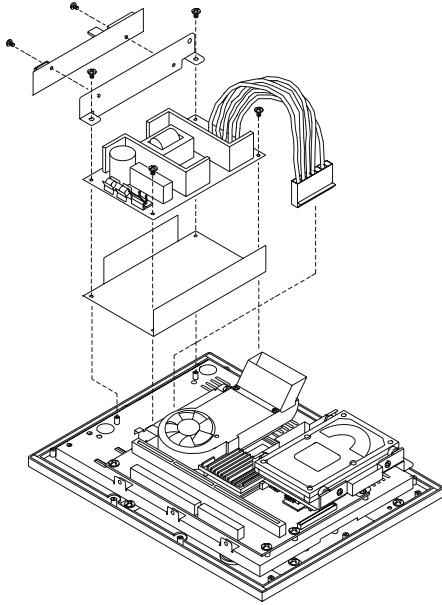

Figure 2.14: Replacing the power supply
1. Disconnect the power cables and remove the four screws to detach the power supply from the panel PC (Figure 2-14).